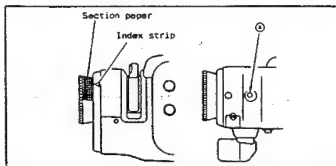

Fig. II-47
- (1) Attach the section paper and the index strip as shown in the Fig. II-47.
- (2) Shoot the Siemens chart from 3 m away.
- (3) With the telephoto end setting, bring the chart image into best focus. Then, mark the relevant index position on the section paper.
- (4) Replace the Siemens chart with the 60% or higher reflectance chart.
- (5) Mark the center AF stop position between the infinity and the closest ends on the section paper.
- (6) Check a difference between the positions marked at the steps (3) and (5) is within the specified range.
- (7) If not, adjust it by turning the hexagonal screw (a).